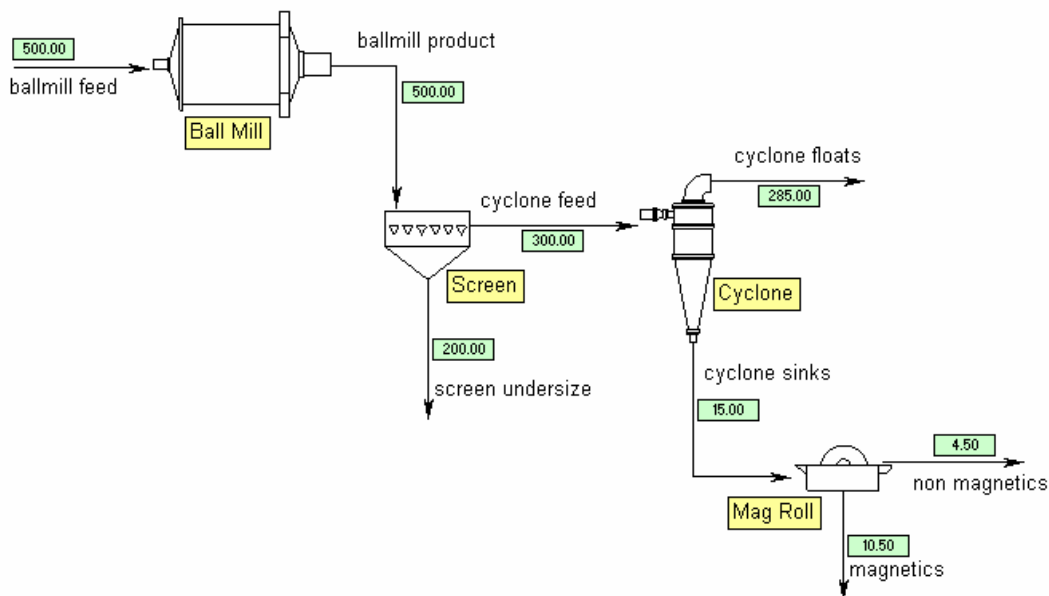

Figure 29: Additional unit worked example
- 8.4 Select the Magnetic Separator – Single Drum from the WETMAGS icon list, see figure 29 below.